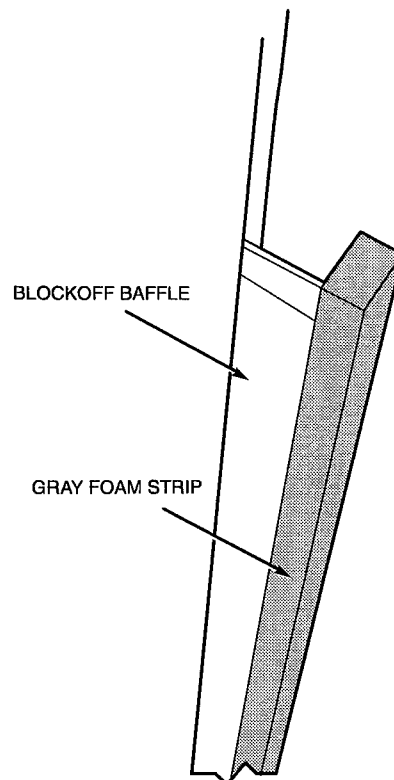

Fig. 20 — Adding Foam Strip to Blockoff Baffle
8. Attach gray foam strip (provided) to block-off baffle on outer face of flange. See Fig. 20.